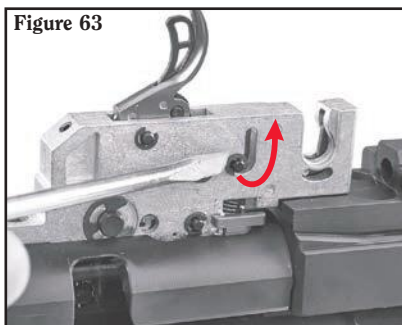

Figure 63
2. Release the cocking guide spring by depressing the pin and allowing it to move into the long portion of the "J" shaped slot. (See Figure 63.)